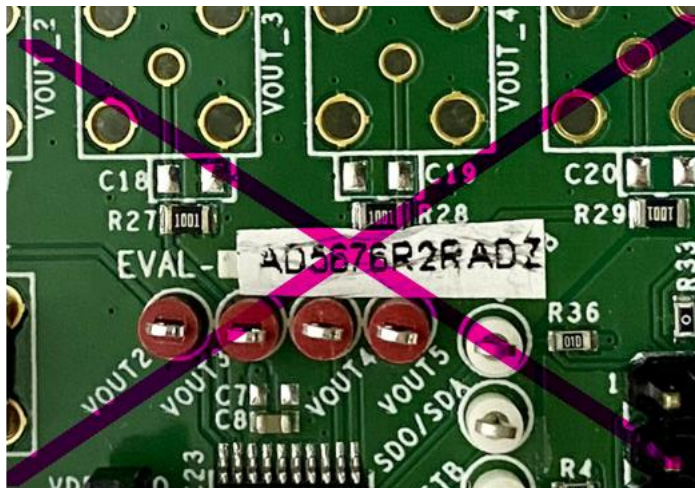

Figure 22 Sticker Mistakes to Avoid
- b. Cut the stickers straightly so that they fit the empty box of the board without covering any labels. Avoid the mistakes shown in Figure 22, where the sticker is dirty and not